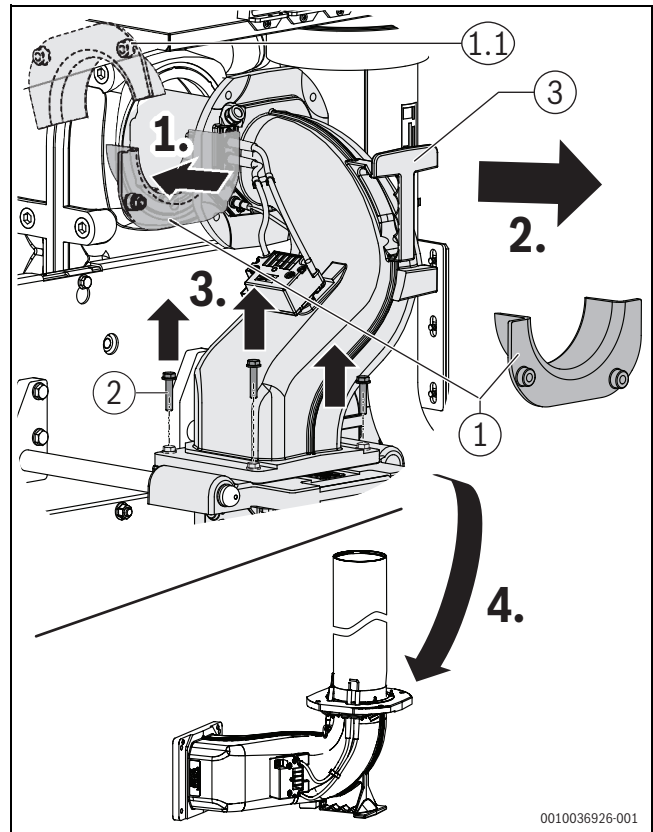

Fig. 53 Remove the mixture manifold with burner rod and put down
- Install the insertion aid. When delivered, the insertion aid is attached on the upper cover plate (→Fig. 53).
- Remove the mixture manifold with burner rod and put down stably on the footprint; protect against contamination and damage (→Fig. 53).
- Carefully remove the entire burner and put down stably on the footprint [3] of the mixture manifold (→Fig. 53) and protect against damage.